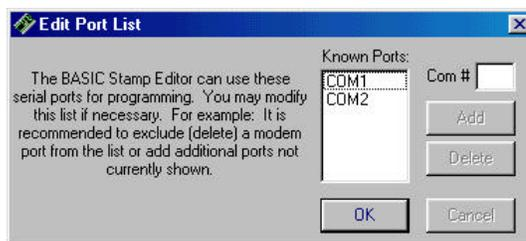

Figure 1.22: Edit Port List window.
- ❑ If this is your first time running the software, the Edit Port List similar to Figure 1.22 will appear. If you know the number of the COM port you're using and it doesn't appear in the list, enter the number in the Com # field, then click the Add button. If you know that a certain COM port listed in the Known Ports list is connected to a modem, click its entry in the list, then select Delete. Otherwise, just click OK.